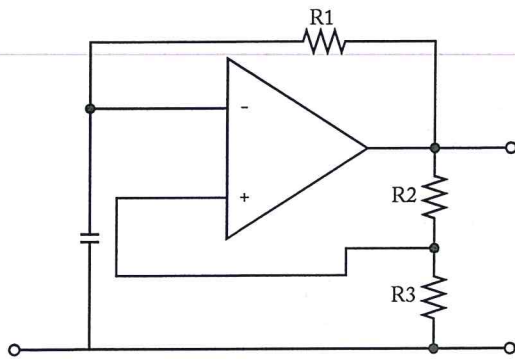

Figure 1-124. Positive feedback network used in a multivibrator circuit.
Figure 1-124 is an op-amp with a resistive-capacitive (RC) coupling that uses positive feedback in a voltage comparator to form a free-running multivibrator or oscillator. In this example, the output voltage is divided between R_2 and R_3 , and a fraction of that voltage is fed back into the non-inverting (positive) input as a reference voltage. The capacitor is charged through R_1 until $V_1 > V_2$ at which time the op amp switches to